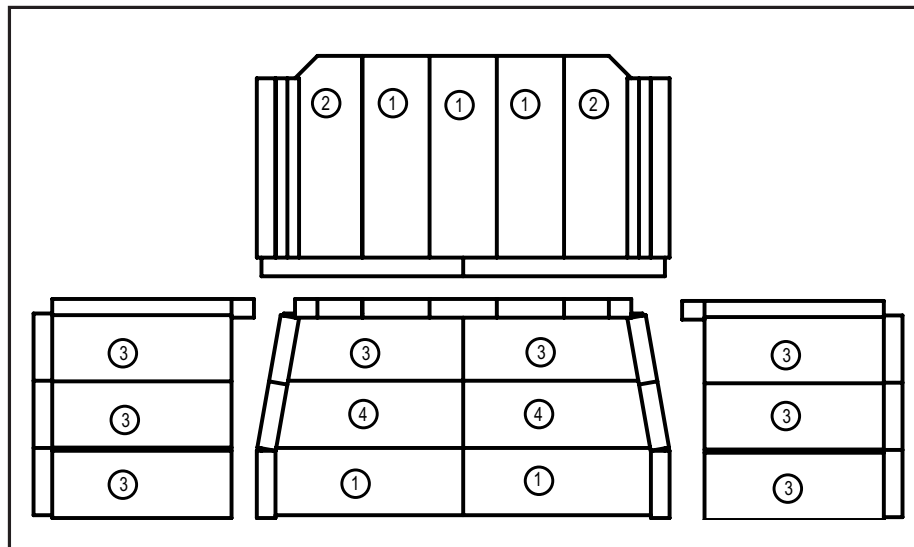

Figure 29B - Brick Pattern
1. Remove new brick set from box and lay out to diagram as shown in Figure 29B.